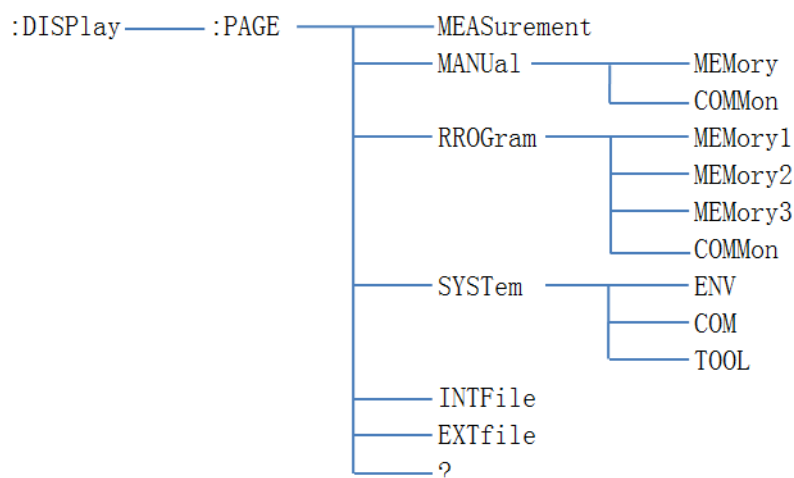

Figure 6-5 Subsystem command tree
2) Subsystem commands perform the specified instrument functions. They are organized into an inverted tree structure with roots at the top. The following figure shows a portion of a subsystem command tree so you can get commands for different paths. Part command trees are shown in Figure 6-5.